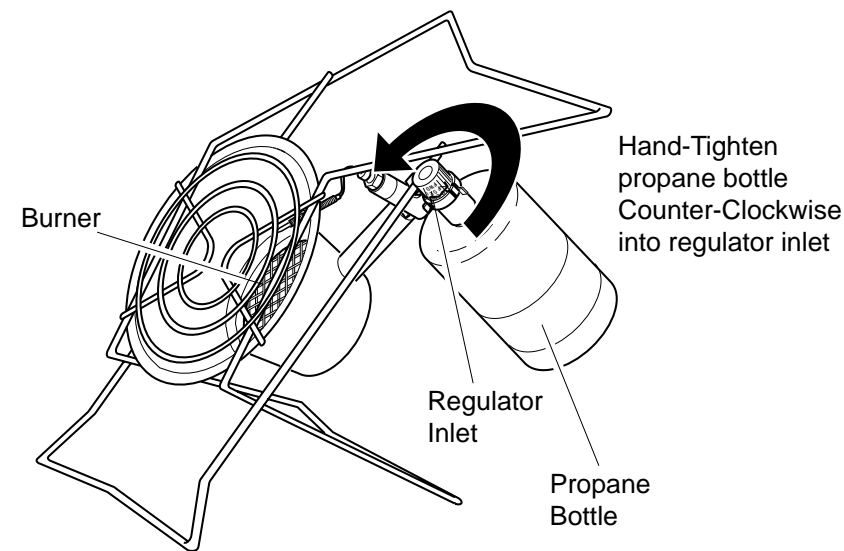

Figure 1 - Connecting Propane Bottle to Heater/Cooker
2. Use only a 16.4 oz. propane bottle with heater/cooker, unless special tank adaptor accessory is used (see *Accessory*, back panel of this manual). With propane bottle in upward position, **HAND TIGHTEN** into regulator inlet (see Figure 1). Always make sure propane bottle points upward. Do not tilt propane bottle more than 30 degrees from vertical.